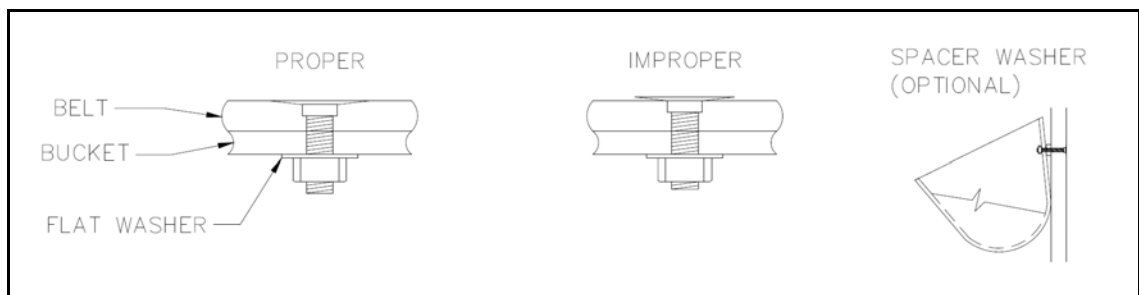

Figure 3.7
10. Insert the bucket bolts from the **back** side of the belt. See Figure 3.7. Mount the buckets on the front side and secure with nuts. Tighten the nuts sufficiently to set the head of the bolt in the belt. Tighten bolts with a speed wrench, or, if an impact wrench is used, exercise care to prevent tightening to the point of fracturing the bolt.